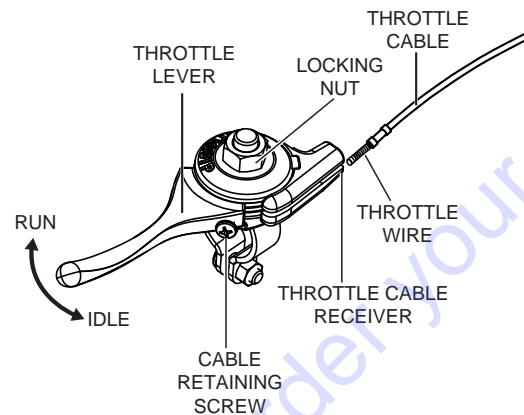

Figure 12. Adjusting Cable Tension
3. Place the throttle in the run position (Figure 12).
7. On the throttle lever, slightly loosen the locking nut and cable retaining screw as shown in Figure 12
9. Route throttle wire past the cable retaining screw (Figure 12) approximately 1/2". To secure throttle wire, tighten the cable retaining screw.
10. Adjust cable tension by loosening or tightening the locking nut and cable retaining screw on the throttle lever (see Figure 12).